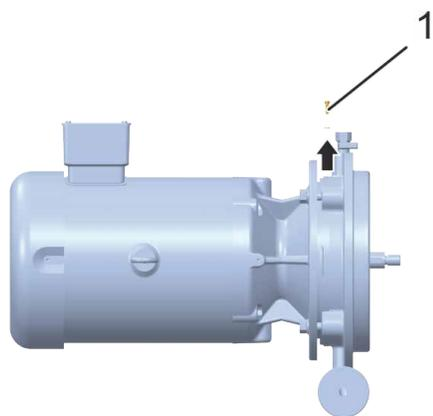

Fig. 72 Seal cover screw (example: herborner.F-N)
Turn the rest of the disassembled pump so that the Seal Guard system compensation tank is at the bottom (Fig. 72).
28. Remove the screw in the seal cover (Fig. 72/1) and place to one side together with the sealing disk for later assembly.